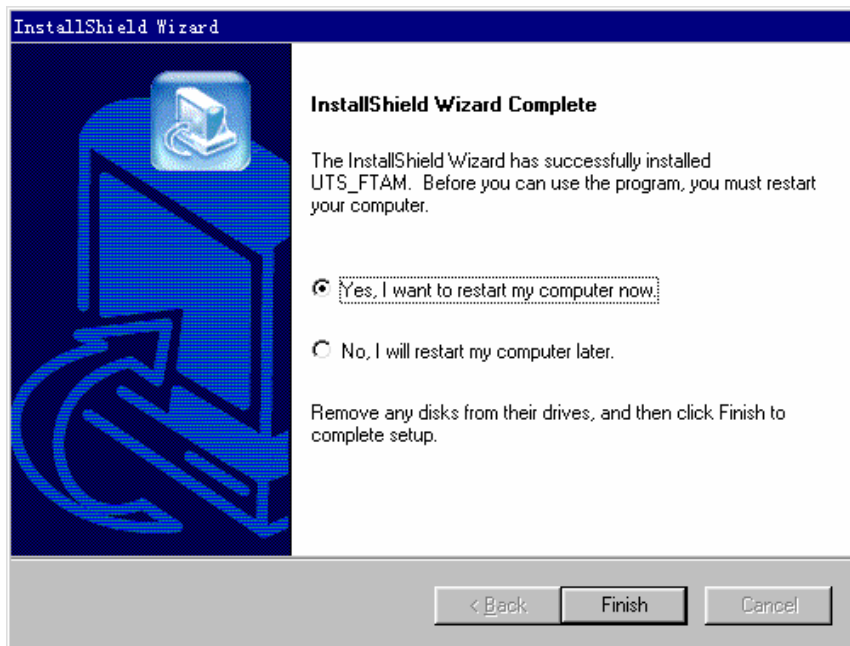

Figure 2-62 [InstallShield Wizard Complete] dialog box
- 7) Retain the default settings. Click <OK>. The [InstallShield Wizard Complete] dialog box is displayed, as shown in Figure 2-62.